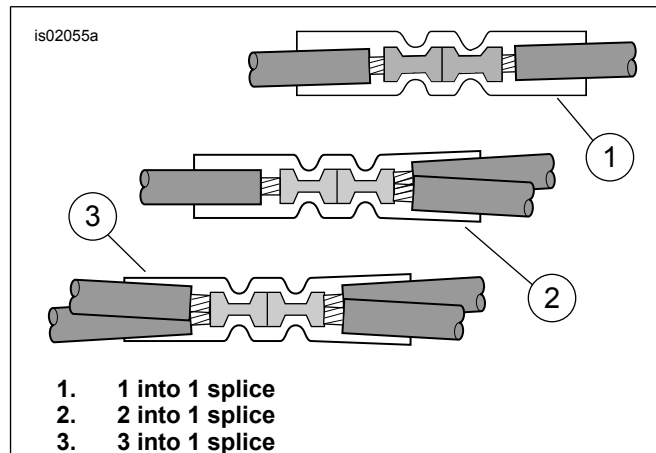

Figure 4. Splice Configurations
4. See Figure 12. Obtain a blue sealed splice connector (13) from the kit. See Figure 4, the 2 into 1 splice configuration. Splice the satellite receiver wire harness power lead to the main harness orange/white wires per the instructions in the service manual appendix.
6. See Figure 12. Obtain the red sealed splice connector (12) from the kit. See Figure 4, the 1 into 1 splice configuration. Splice the satellite receiver wire harness power lead to the adapter wire per the instructions in the service manual appendix.
- See Figure 12. Obtain the blue sealed splice connector (13) from the kit. See Figure 4, the 2 into 1 splice configuration. Splice the satellite receiver wire harness power lead to the cut orange/white wires per the instructions in the service manual appendix.
- See Figure 12. Obtain the red sealed splice connector (12) from the kit. See Figure 4, the 1 into 1 splice configuration. Splice the satellite receiver wire harness power lead to the adapter wire per the instructions in the service manual appendix.
3. See Figure 12. Obtain the blue sealed splice connector (13) from the kit. See Figure 4, the 2 into 1 splice configuration. Splice the satellite receiver wire harness power lead to the main harness orange/white wires per the instructions in the service manual appendix.